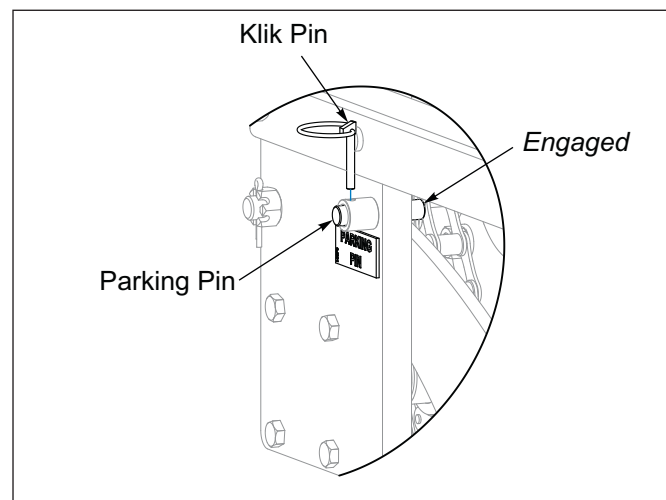

Figure 2-2: Parking Pin Engaged
5. Be sure Parking Pin is locking Rear Roller down and raise the Seeder. **See Figure 2-2.**